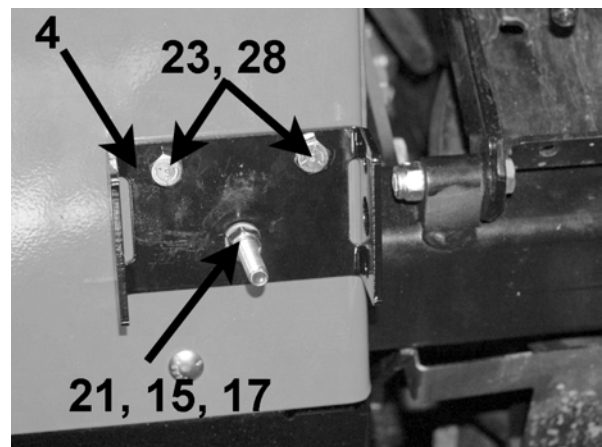

Figure 2
2. Mount the Hand Control Forward/Reverse Bracket **4** with one bolt **21** from, one lockwasher **15**, and one nut **17** on the bottom hole from the inside out. On the top holes install two bolts **23** and two nuts **28** from the outside in. (**Figure 2**)